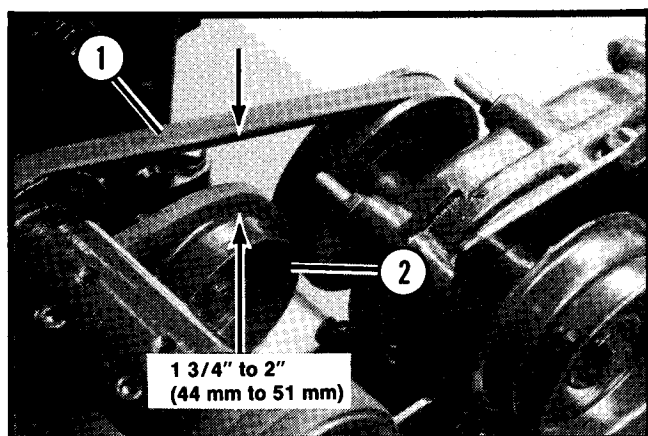

Figure 19. Drive Belt Clearance
4. Push drive lever forward to engage drive belt. Measure the distance from the surface of the idler pulley to the top (outside edge) of the drive belt (See Figure 19). The distance should be 1 3/4 to 2" (44 to 51 mm).